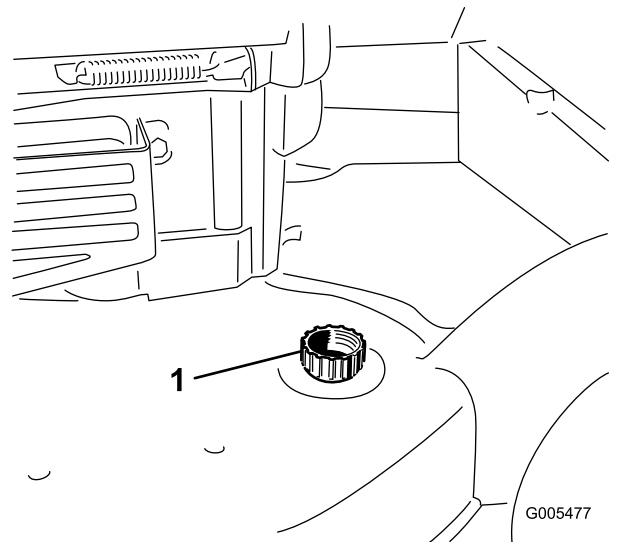

Figure 40
3. Attach a garden hose that is connected to a water supply to the washout port on the mower housing (Figure 40).